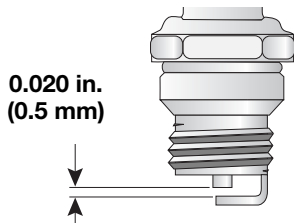

Fig. 18
3. Set the air gap at 0.020 in. (0.5 mm) using a feeler gauge (Fig. 18).